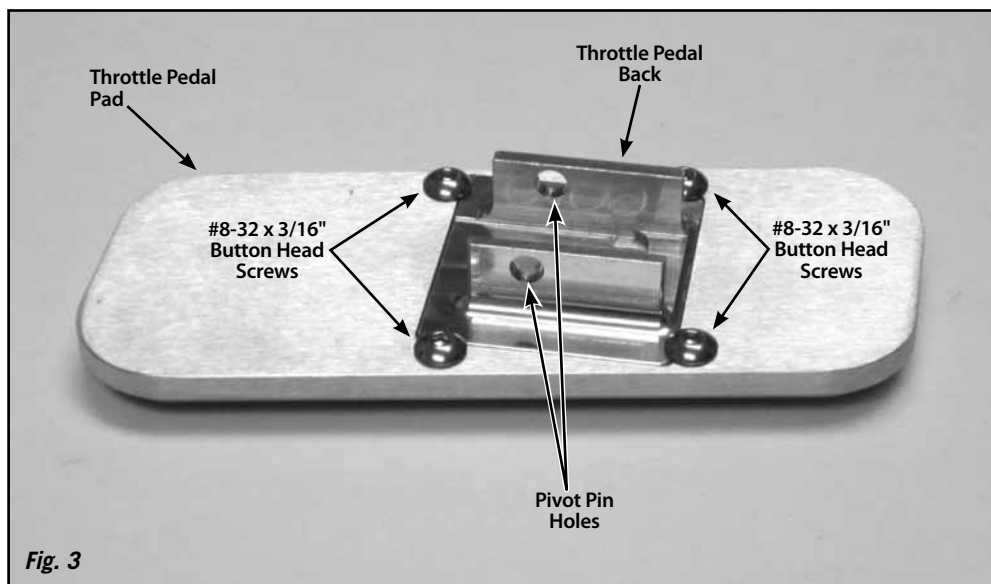

Fig. 3
Step 2: Install the new throttle pedal pad onto the throttle pedal back using the #8-32 x 3/16" button head screws. The throttle pedal back will be positioned with the pivot pin holes closest to the center of the pad. Fig. 3